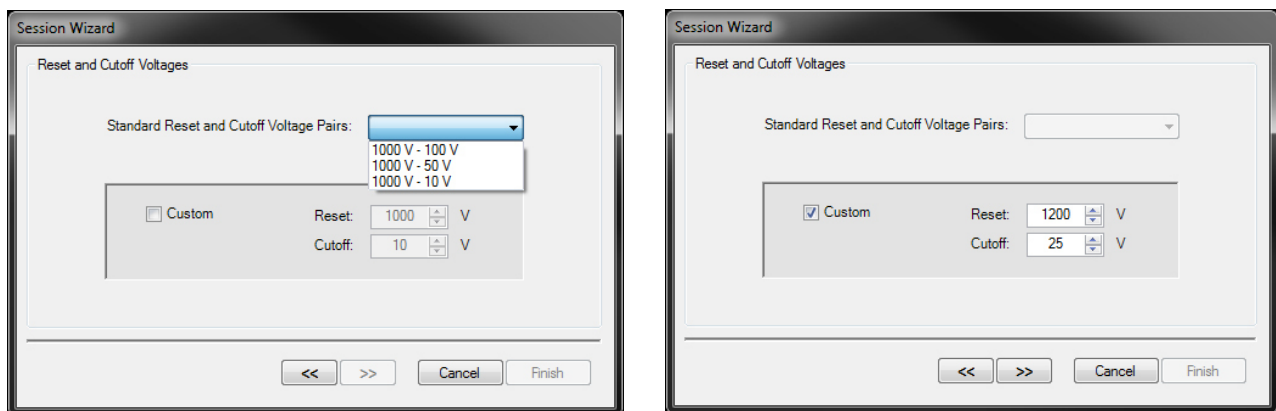

Figure 12: Standard Reset and Cutoff Voltages (left), or check the Custom Box (right) and Manually Enter
- a. Standard **Reset** and **Cutoff Voltages** are (See Figure 12):
- b. Check the Custom Box to enter any two voltages for evaluation. Figure 12.